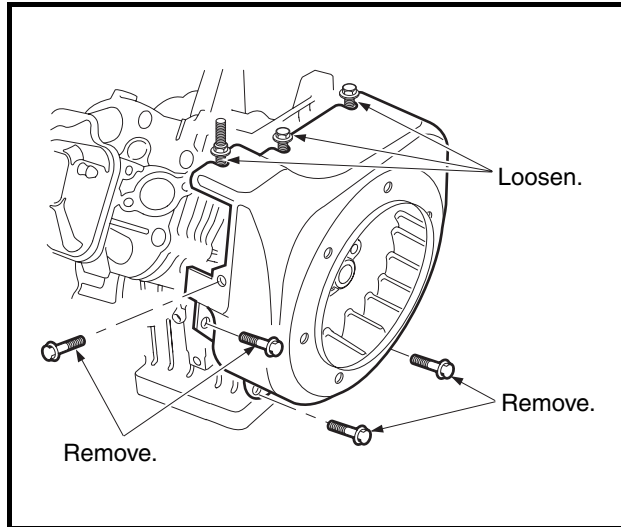

Figure 13-8 Flywheel Housing
1. Loosen three screws and remove the remaining four screws attaching the flywheel housing as shown, then remove the housing (**Figure 13-8, Page 13-8**).